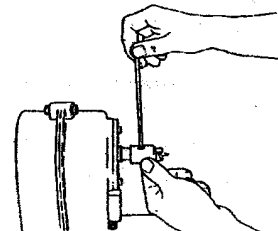

Fig.10
5. Install the drive center on the Speed Reducer's drive shaft, leaving about 1/2" of the shaft exposed, as in Fig.10.